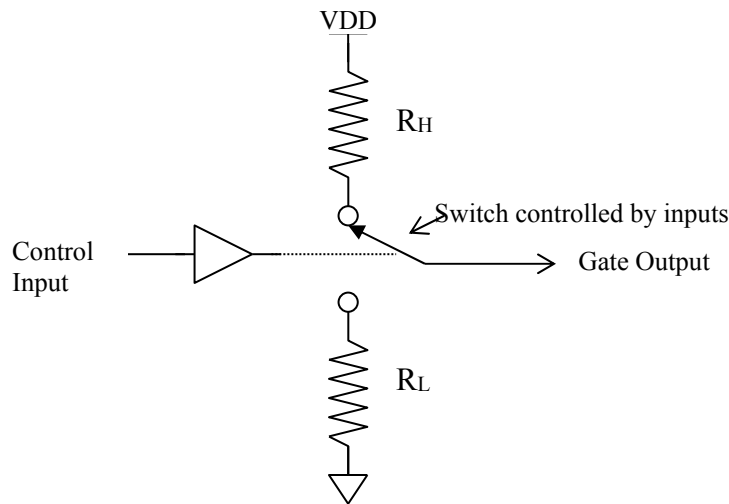

Figure 2-i: Simplified switch model for the output of a gate.
- 5) **Input DC Currents and the Effect of Unconnected Inputs:** Frequently, systems have unused gate inputs which need to be either '0' or '1' at all times. Making no connection to a pin may seem an economical way to get such a condition, but that can cause unanticipated problems. The purpose of these measurements is to determine the logic level of an unconnected input, if indeed it is determined at all, for a 74LS14 inverter and for a 74LVC04A (CMOS) inverter. The actual input current of an unconnected pin is identically zero. Begin by measuring the input current at full LOW and HIGH levels to see whether an open pin might be at either level. To do this for the 74LS14, connect a 510-ohm resistor from the input to GND and then reconnect it from input to VCC. Measure the voltage across the resistor with the multimeter. Be sure to observe the sign of the voltage (the direction of the current) as well as its value. (DO NOT MEASURE WITH A CURRENT RANGE OF THE MULTIMETER. USE A SERIES RESISTOR AS SHOWN IN FIG. 2-iii AND MEASURE THE VOLTAGE ACROSS IT. Invariably you will end up damaging the meter if you use its current range.) One can also measure the logic level associated with an open connection by measuring the *output* of a gate with no input connected and inferring the input state. For the 74LS14, also measure the voltage at its input with nothing but the voltmeter connected to that input as a rough measure of the unconnected voltage. It is sufficient for the 74LS14 to do these measurements only once.
- 7) **Power and Uncommitted Inputs with CMOS Gates:** Connect your 25K potentiometer so it can set the input voltage to the single isolated gate of the 74LVC04A hex inverter using the circuit in Figure 2-iv. Ground the input to the chain of other gates in that package. (See comments above and in Lab 6 on the wiring of this device.) Use the 3.3 volt supply for this measurement. This setup allows you to adjust the input voltage to any value from 0 to VDD and to measure the power dissipation at the same time. Use a sense resistor of 100 ohms. Rotate the pot slowly from one end to the other and record the maximum current into the gate. Make a crude plot of current,  $I_{DD}$ , versus input voltage. Estimate the input voltages that make  $I_{DD}$  approximately half of the peak value.
- 8) **Fanout Limitations:** Figure 2-i shows a simplified model of the output of an inverter based on an electrically controlled switch and two resistors. The resistors mimic the change in output voltage with output current. This model is not very good for TTL gates because their transistors do not obey Ohm's law. However, it is a reasonable approximation for CMOS gates.  $R_L$  and  $R_H$  are the on-resistances of the NMOS and PMOS output transistors respectively. The model is good enough that we will use it for you to find an upper limit on fanout from your 74ACT04 to TTL gates like the 74LS14.
Measure  $R_L$  and  $R_H$  for one section of a 74ACT04. Probably the most reliable method is to connect a resistor ( $\approx 510 \Omega$ ) from output to ground, put the output in the logic HIGH state, and measure the potential difference between the  $V_{CC}$  and the output pins. From this you calculate  $R_H$  using Ohm's law. A similar arrangement but with the output LOW and the resistor between the output and  $V_{CC}$  will give  $R_L$ . The internal resistances shown in Figure 2-i will limit the amount of current which your chip can handle before noise margins are compromised.